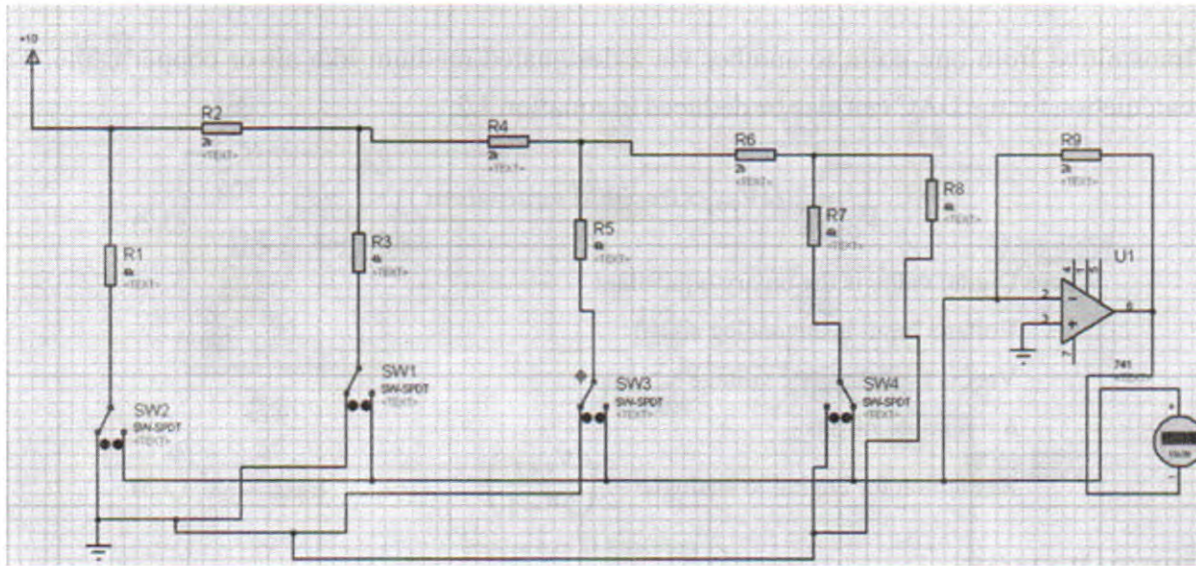

Figure 3.1: Digital to Analog Converter circuit diagram
1. Connect the circuit diagram in Fig. 3.1 using any simulation software.